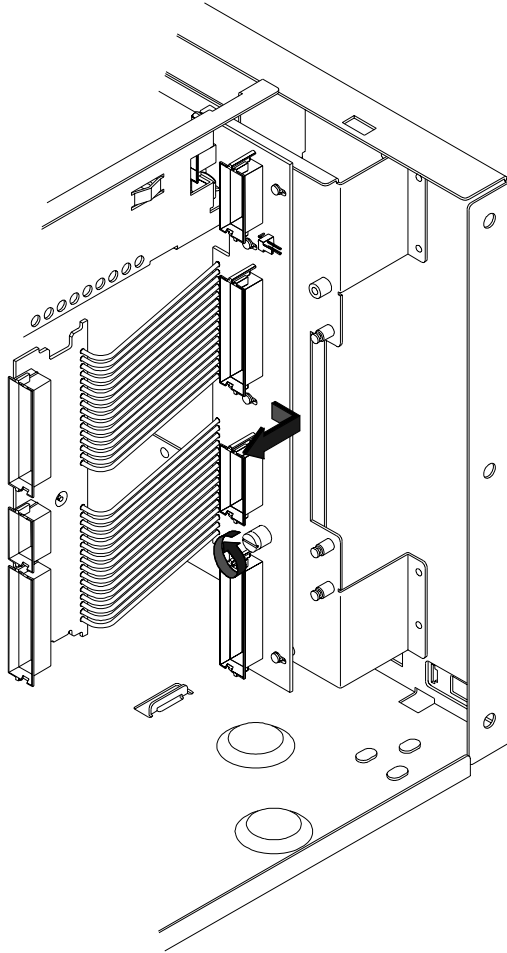

Figure 5-23
- 5 Loosen captive screw holding the power distribution PCA circuit board to the front of the chassis. Slide board to right to remove. Refer to Figure 5-23.